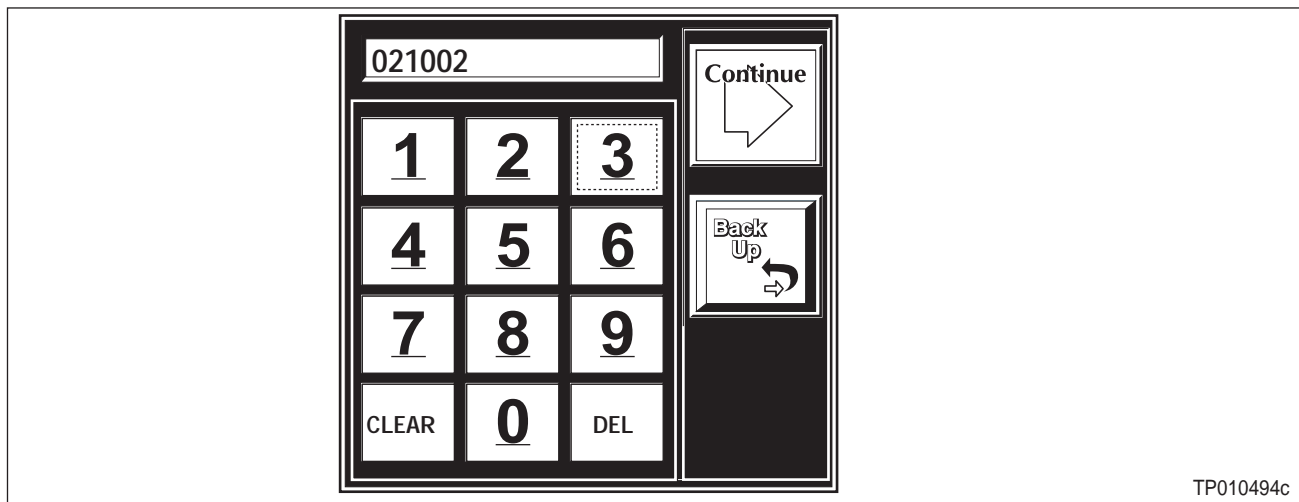

Figure 2
2. Use the digit keys on the **Keypad** (see Figure 2 below) to enter the correct **ECM ID Code** from Chart A-1 or A-2 (page 2).